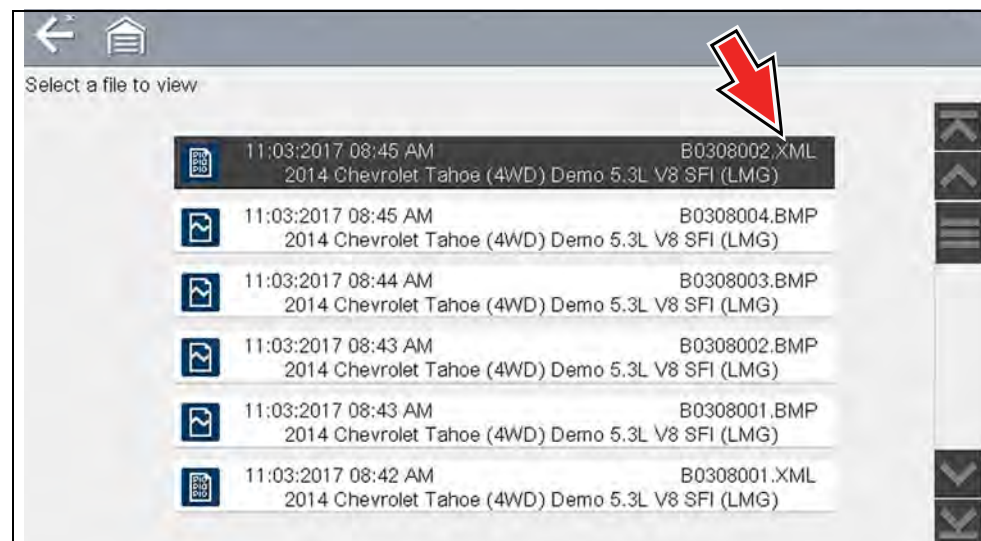

Figure 11-3 Typical - Code Results (.XML) file
When code scan or single system code results are saved, they are saved in (.XML) file format (Figure 11-3).
3. Select the code scan report .XML file from the list to view the file (Figure 11-3).